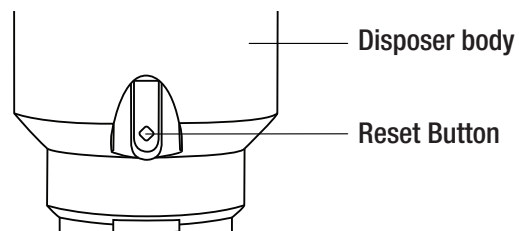

Fig. 12
- The disposer must be installed so that the reset button is readily accessible (see Fig. 12).